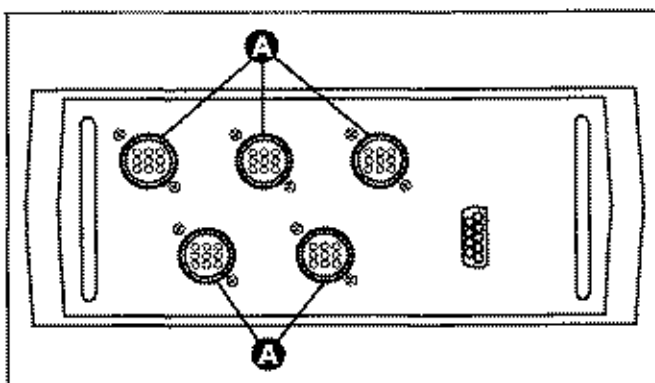

Figure 1-3
See Figure 1-3. The remote unit may be plugged into any one of the five (5) wheel unit connector sockets (A) located on the back of the interface unit.